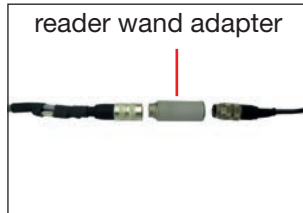

Figure 4
- Unscrew the reader wand adapter from both connectors by turning counter-clockwise (Figure 4).